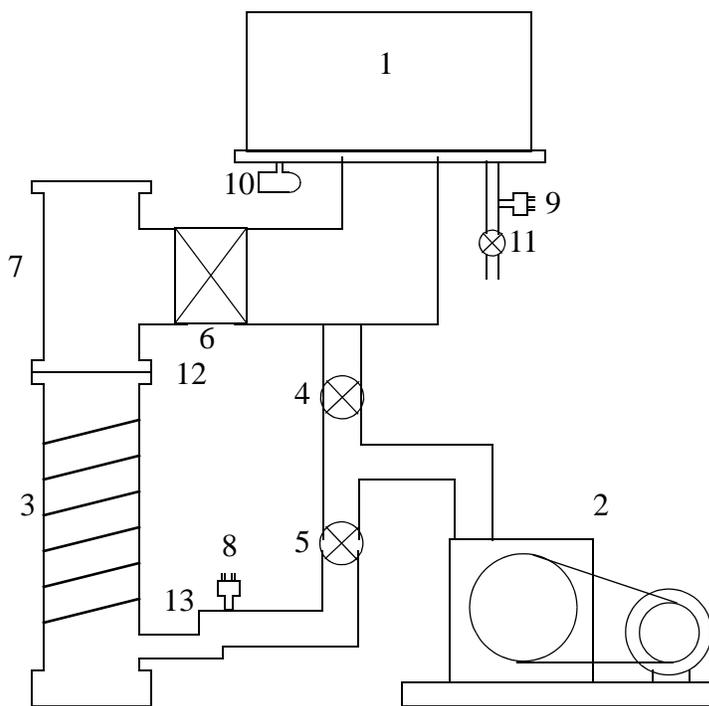

Fig. 2. The evaporator vacuum system.
1. It is impossible to say what the status of the bell jar will be when you get to it. It may already have been removed from rest of the evaporator and be sitting somewhere in the lab. If it is on top of the bell jar it may or may not have a partial vacuum in it. If it is on the evaporator, you will need to remove it and set it down out of the way. The bell jar is made out of glass. It hates everyone and is vigilantly and relentlessly looking for a chance to chip or break and ruin your experiment. Needless to say, you must not drop it. Less obviously, the edges are extremely easy to chip, even through the rubber gasket, and you must set the bell jar down very gently and place the lid on top of it very gently. It is heavy and awkward and this is hard to do, but it must be done anyway. Make sure there are no chunks of anything on the gaskets or on the surfaces you are setting it on before setting the bell jar or lid in place. Any chunks in the seals may cause a chip that will leak. There are numbered valves on the evaporator. Their function is described in detail below. To remove the bell jar, make sure Valves 4 and 6 are closed. Open Valve 11. If it hisses, wait until it stops. Then you can remove the bell jar. Often over zealous vacuum grease users put so much grease on the rubber seals that the bell jar is hard to lift. To get it off, place a hand at the lower left corner of the bell jar in Fig. 2 and push with your other hand or shoulder depending on your height on the upper right hand corner. Do not strike any sharp blows during this process (it's still made of glass after all) but smoothly ramp up the force you apply until the lower right corner lifts off. It'll be easy after that. Once it's off, you can set it on the little platform behind and to the right of the evaporator.
Figure 2 shows a schematic diagram of our evaporator:
2. Make sure that valves 4, 5, 6 and 11 in Fig. 2 are closed. (Always check to see if valves are closed by trying to close them. A little thought will tell you why.) Find the right switch and turn the mechanical pump on. You'll hear it if you succeed. Open valve 5. We are about to heat up the oil in the diffusion pump. The golden rule above has a corollary: *when the diffusion pump is hot Valve 5 is **always** open except during time intervals just a few minutes long when having Valve 5 open would violate the golden rule.* After a minute or so thermocouple gauge 8, the bottom green LEDs on the gauge controller, should come on scale meaning they should light up from left to right. If this doesn't happen go for help from some cognizant authority. The units on this gauge are thousandths of millimeters of mercury, aka microns, aka millitorr or mtorr. Once thermocouple 8 is on scale, the pressure inside the diffusion pump, 3 above, is low enough so that is safe to turn on the heater. First find the valves that bring chilled water to and from the coils around the diffusion pump. Turn both of them on. The chilled
5. After the bell jar thermocouple gauge, 9 in Fig. 2, reads ~ 200 mtorr, close Valve 4, open Valve 5 and open Valve 6, in that order. It requires approximately 75,000 full turns of its handle to open Valve 6, or at least it seems like this many. Be gentle and patient and just keep turning until it is open. It will come to a hard stop. The valve is very subject to mechanical damage if net forces are applied to the valve stem. So take your time and apply torque not net force. If you don't know the difference, ask. (By the way, why do you think Valve 4 must be closed now?) Pumping much below 200 mtorr through Valve 4 with the roughing pump allows roughing pump oil vapor to diffuse into the bell jar and that's not good. A minute or so after Valve 6 is open you can turn on the ionization gauge. The filament should glow like a light bulb and remain on. If it does so, everything is ok. If it does not, wait a couple of minutes and try again. If there is still no luck, shut Valve 6 and go for help. The thermocouple pressure gauges and ionization gauges, why they work and what ranges of pressure they are good for, are described in Appendix B.
6. Now you have to decide how low a pressure to get to before making your sample. The average distance a metal atom will fly through a gas at a pressure P before it undergoes a collision is called the mean free path. The mean free path, λ , is given roughly by Equation (1). This
1. Make sure that the big knob on the variac (which is an inductive voltage divider for ac voltages) is turned against the stop, all the way counterclockwise. If there is a mechanical shutter between the boat and the substrate in the evaporator, turn it out of the way by rotating the knob under the base plate shown in Fig. 2.